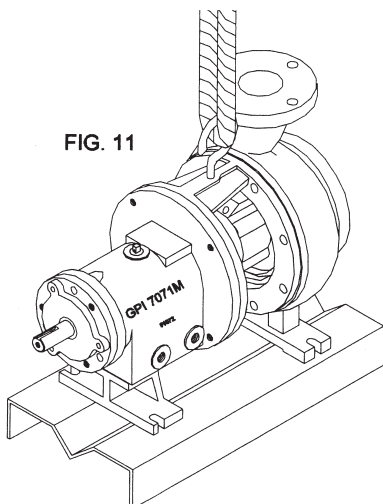

FIG. 11
4. On oil bath applications, drain oil from the bearing frame (13) and replace the drain plug.
5. Remove oil sight gauge (11).
6. Remove the cap screws that secure stem (18) to impeller housing (26).
7. Unbolt pedestal (14) from base.
8. Remove rotating assembly from impeller housing (26) using a hoist (Fig 11). Penetrating oil may be used if the joint is corroded. In many instances it is advisable to have a spare pump to install to keep down time to a minimum.